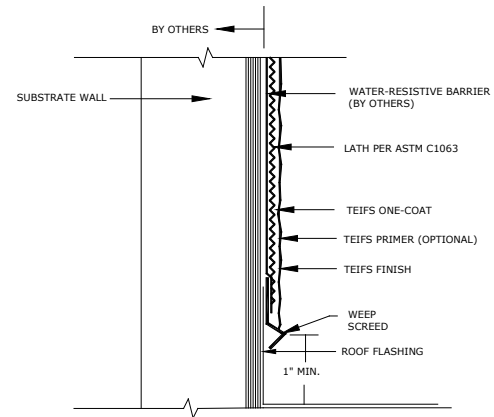

Fig. 8.1
- The weep screed must overlap the the joint formed by the foundation and framing not less than 1 in. (25mm) and appropriate flashing at roof lines a minimum of 2 in. (51 mm) (Fig. 8.1).